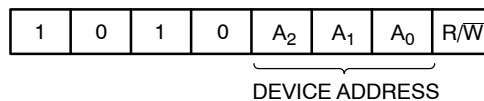

Figure 3. Slave Address Bits
The Master addresses a Slave by creating a START condition and then broadcasting an 8-bit Slave address. For the CAV24C64, the first four bits of the Slave address are set to 1010 (Ah); the next three bits, A₂, A₁ and A₀, must match the logic state of the similarly named input pins. The R/ $\bar{W}$ bit tells the Slave whether the Master intends to read (1) or write (0) data (Figure 3).